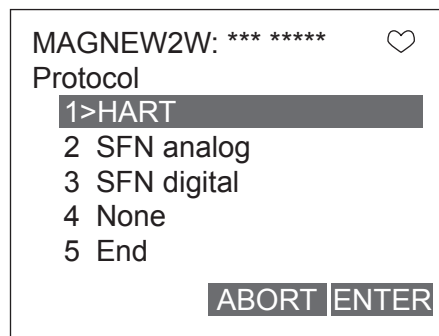

Figure 7-17
Figure 7-17 will then be displayed.
2. Once the display as shown in Figure 7-17 appears, move the arrow key up or down to select communication method. After making a selection, press F4 (ENTER). If F3 (ABORT) is pressed here, the selection will be canceled and the display will return to the COMM output menu.